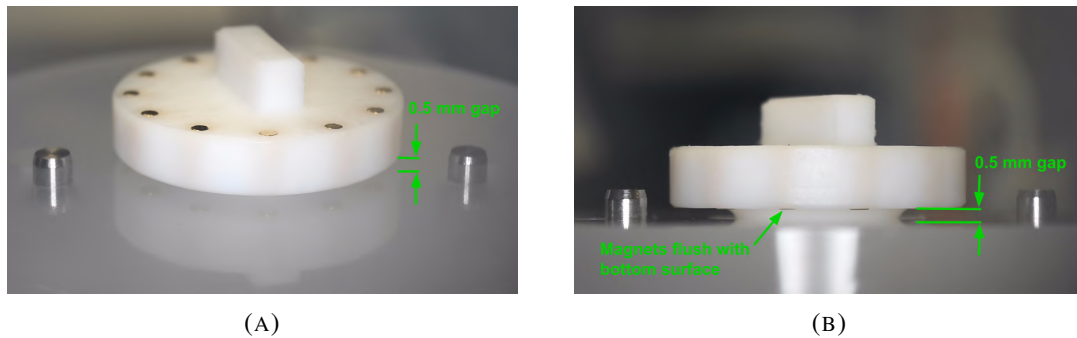

FIGURE 4.20 – Rotor properly inserted into the stator
2. Check the visual aspect of the rotor. If the rotor is correctly inserted, there should be a gap of 0.5 mm between the collar of the rotor and the stator, as shown in Figure 4.20. The magnets of the rotor should also be flush with the bottom surface of the collar.
3. Push the rotor back in place, as shown in Figure 4.22b. You should feel a slight movement and the rotor should now look as in Figure 4.20.